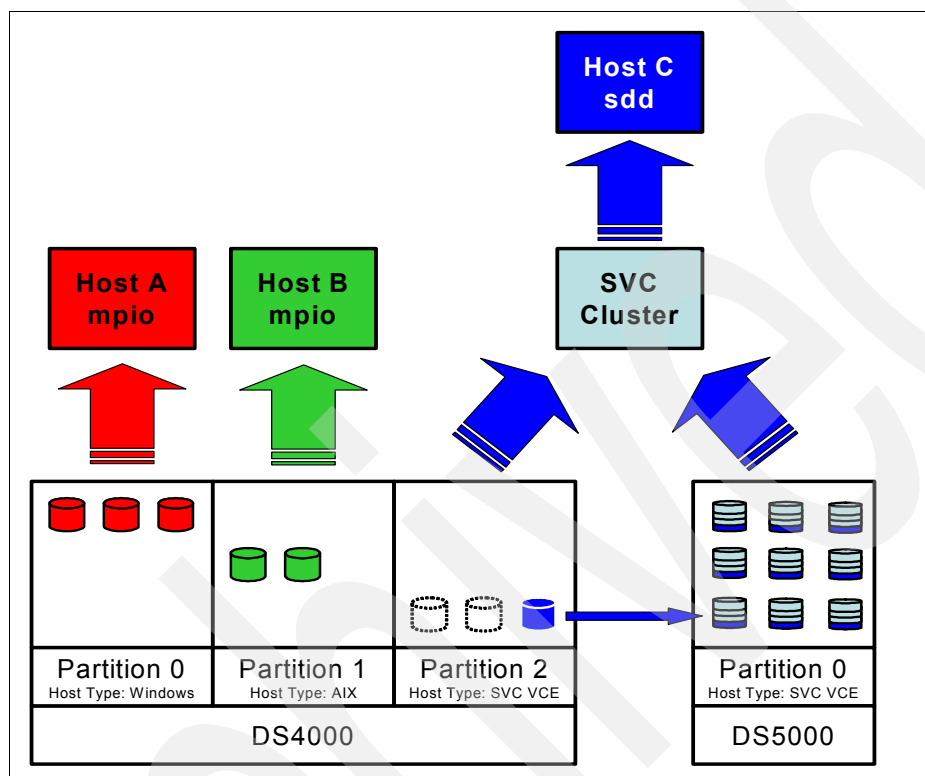

Figure 11-17 Migration - migration in progress
15. Start migrating data from DS4000 to DS5000 (see Figure 11-17):